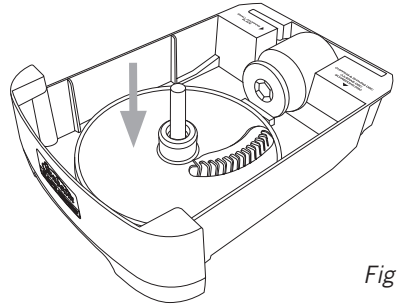

Fig 11
4. Place the 'Julienne Disc' in the storage drawer as indicated in figure 11.